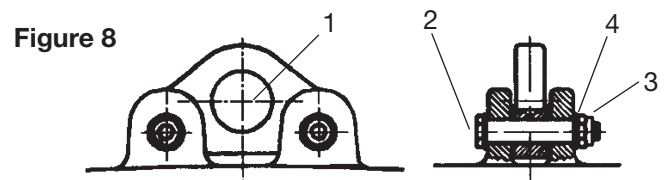

Figure 8
Refer to Figure 8. The suspension eye (1) is fitted on top of the chain hoist housing by means of two stud bolts (2) mounted in the four lugs provided. Each stud bolt is secured with compression stop nuts (3). A washer (4) must be fitted under the bolt head and the nut. The torque settings for the nuts (3) are given in Table 3.2.3. The nuts should also be secured with LOCTITE 243 thread-lock.